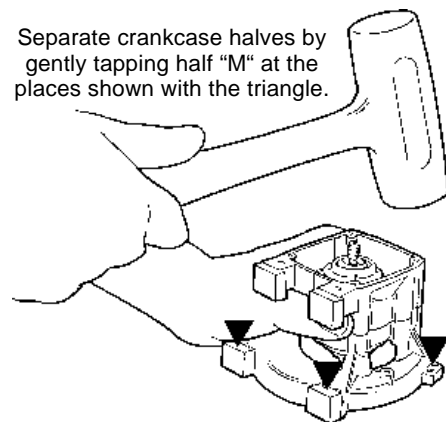

Figure 8.3 Tap crankcase halves with a hammer.
STEP 2. While firmly holding crankcase half "S," gently tap crankcase half "M" with a soft-faced hammer (Figure 8.3).